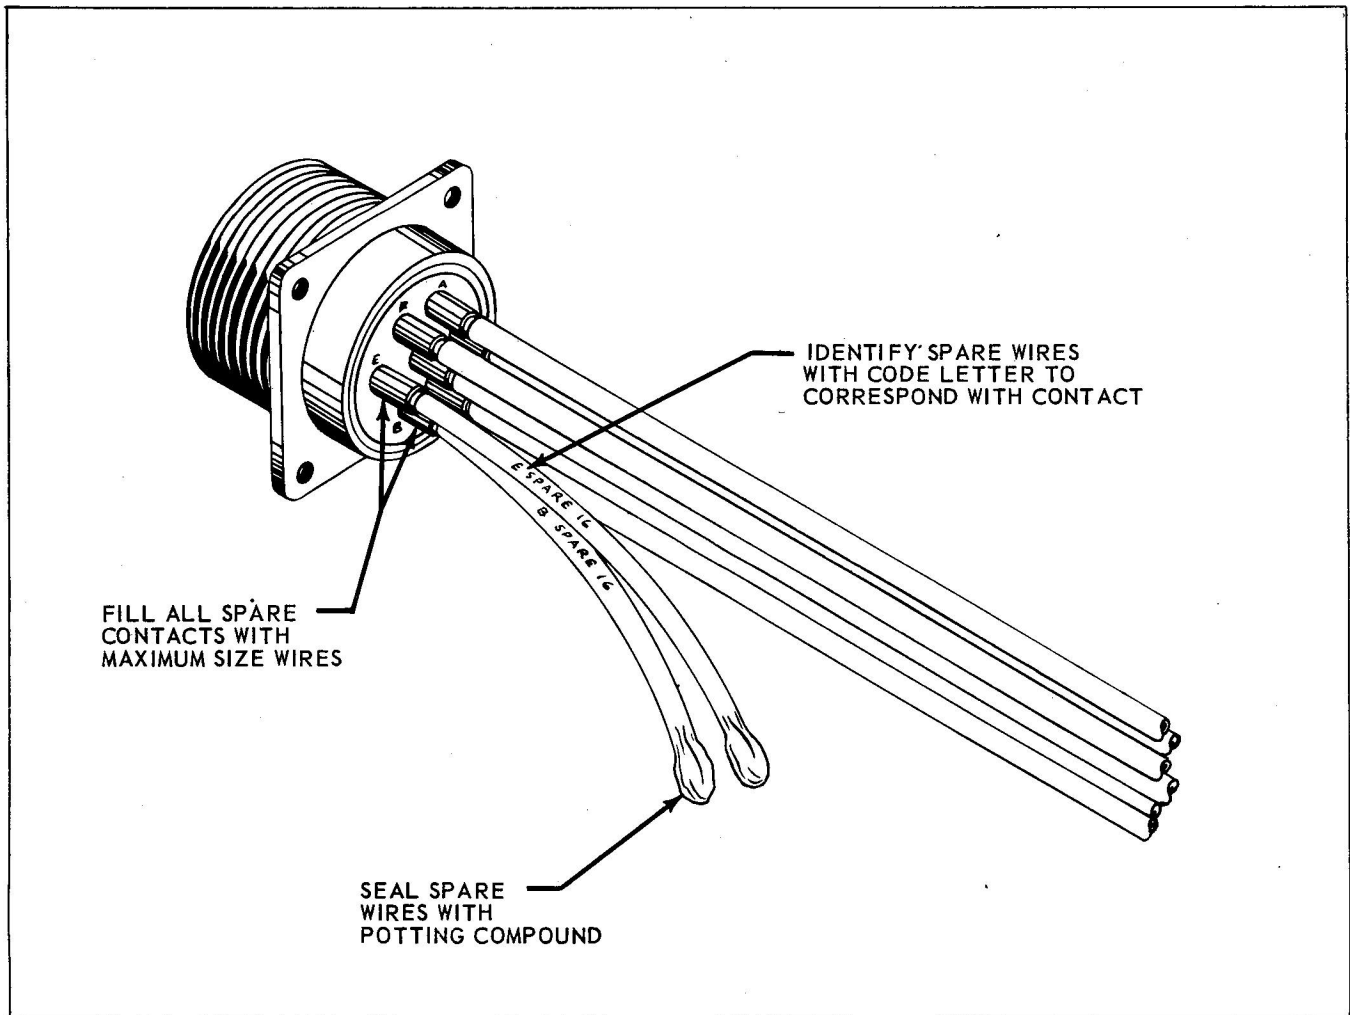

Figure 3-47. Spare Wires for Potting Connector
c. Install spare wires on all unused pins. Use largest AN gage wire that would normally be attached to each contact. Spare wires are approximately 9 inches long. (See Figure 3-47.)
- h. Seal the ends of all spare wires by dipping into potting compound to a depth of about 1/2 inch. (See Figure 3-47).